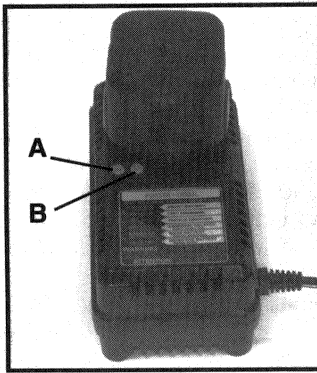

Fig. 5
Make sure power circuit voltage is the same as that shown on the charger specification plate. Connect charger to power source. The green light (A) Fig. 5, should begin to flash. This indicates the charger is ready to begin charging.
Position the battery pack to the charger, aligning the tongue on the battery pack with the slot in the charger. Insert battery pack into charger (see Fig. 5). **DO NOT FORCE**. If battery pack does not slide in easily, it is being inserted incorrectly: Realign battery pack tongue with charger slot and try again.
The green light (A) Fig. 5, should begin to glow continuously, indicating that the battery pack is receiving a "Fast Charge" (if the green light does not glow continuously, or if the red light (B) Fig. 5, also begins to flash: see **DIAGNOSTICS**). After approximately one hour, the "Fast Charge" indicator light should go out indicating that the battery pack is fully charged and that the charger is now in a "Trickle Charge" mode. The battery pack can be left on "Trickle Charge" until you are ready to use it.
The Model 8301 Charger is equipped with a diagnostic system that automatically checks the battery pack each time a pack is inserted into the charger. If no problems are found, the charger will automatically switch to "Fast Charge" mode as described in **NORMAL CHARGING**. If a problem is found, it will be indicated by the charger indicator lights (see Fig. 5), as follows: